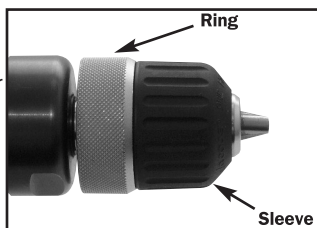

Fig. 3
3. Hold the ring and turn the sleeve counter-clockwise to open the chuck jaws. Place the bit in the chuck's jaws as far as it will go. Hold the ring firmly and turn the sleeve clockwise to tighten the chuck. To remove the bit, hold the ring and turn the sleeve counter-clockwise. (See fig. 3).